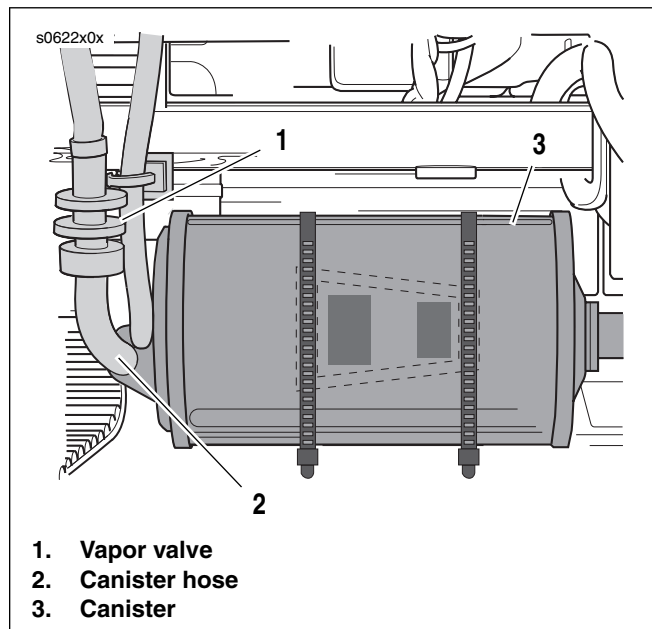

Figure 3. Vapor Valve and Hose: Softail Models
- **Softail models:** See Figure 3. The vapor valve (1) is located next to the EVAP canister (3) below the rear fork pivot. Follow instructions in the service manual to gain access to the vapor valve and remove the canister hose (2):